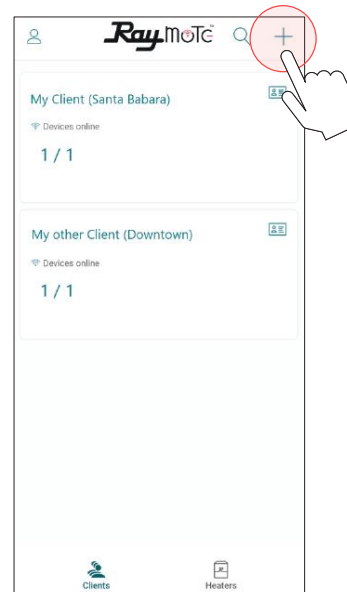

Figure 115. Add a New Client
3. Now, press [New Client] button or top-right [+] icon. See Figure 115.